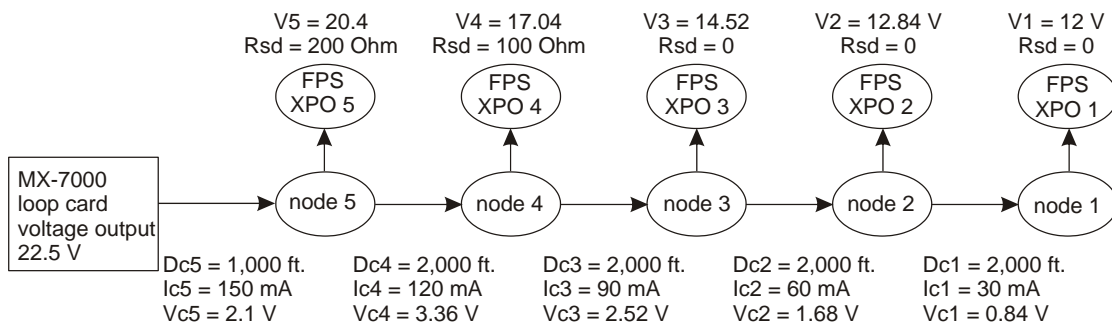

Figure 30 Power distribution plan
1. Draw the equivalent resistance network (see Figure 30)